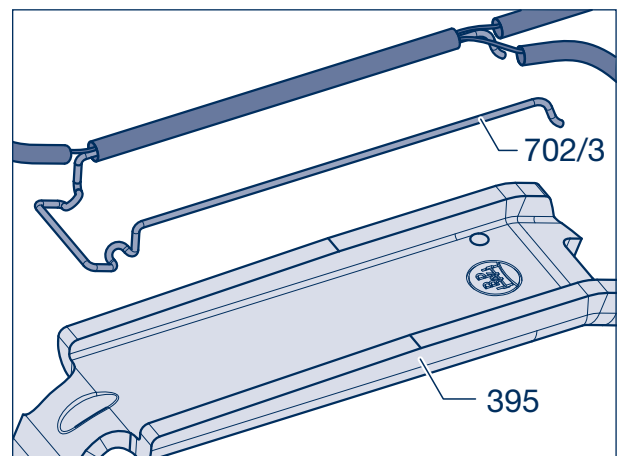

Figure 3
- [7] Pre-mount the retention clip (702/3) in the protective sleeve of the cable as shown in figure 3.